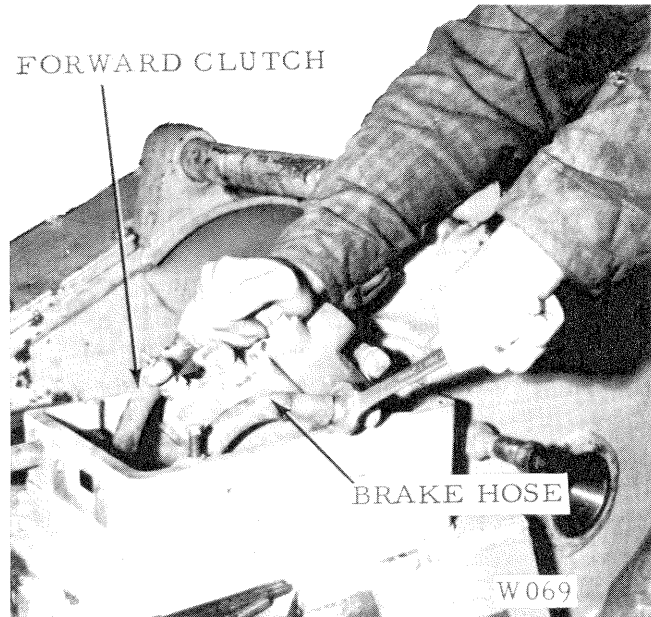

Figure 21
4. Lift the valve partially out of the housing. Disconnect the brake hose and the forward clutch hose from the valve. Fig. 21. Lift the valve out. Remove the O-ring from the winch or the bottom of the support.